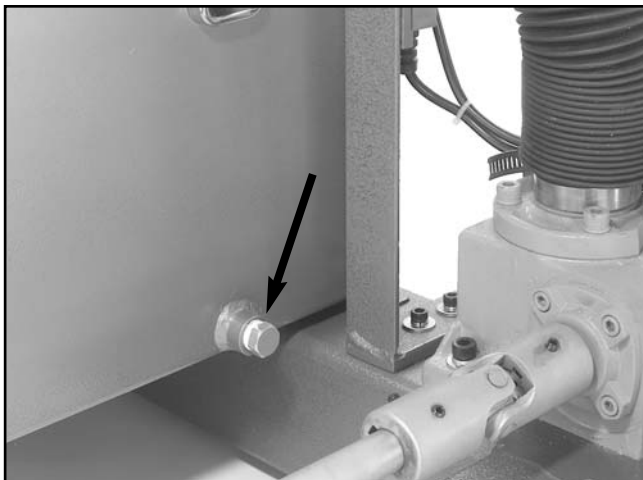

Figure 32. Drain plug for hydraulic tank.
2. With your drain pan in place, remove the drain plug shown in **Figure 32**.